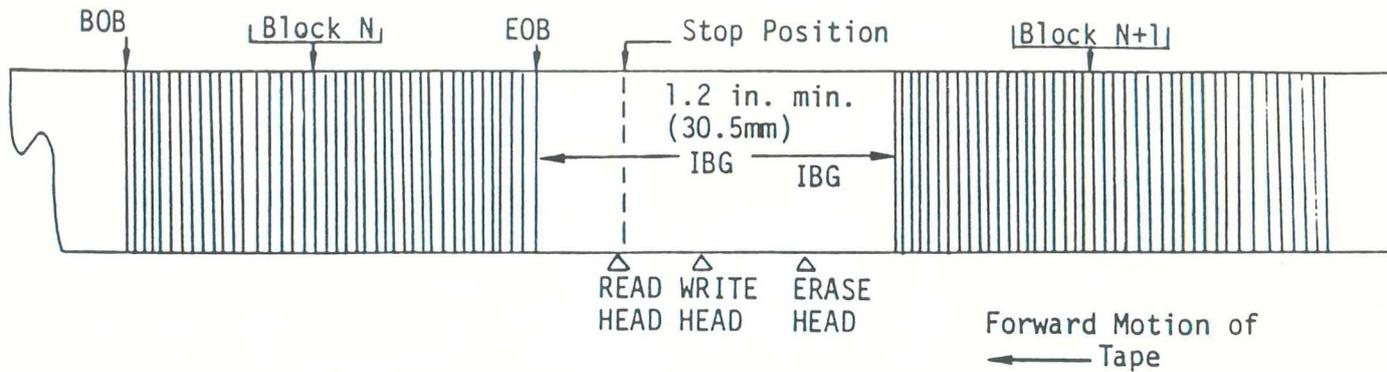

Figure 3-4. Interblock Gaps and Stop Position
The IBG delays, utilized when recording with this drive (at 30 ips and 1600 bpi), are externally generated delays used to insure, in the worst circumstances, writing and maintaining the ANSI minimum IBG of 1.2 inches (3.05 cm), Figure 3-4. They also insure that the stop position of the read head within the IBG is in a consistent place when stopping either from a write or read forward or read reverse condition.
3.5.1 IBG Stop Position (Figure 3-4)
The beginning and end of a data block (BOB) and EOB) can be sensed by monitoring the data envelope as the block passes the read head. When the tape is stopped, the read head should rest at the same place in the gap relative to EOB of block N and BOB of block N+1, Figure 3-4.